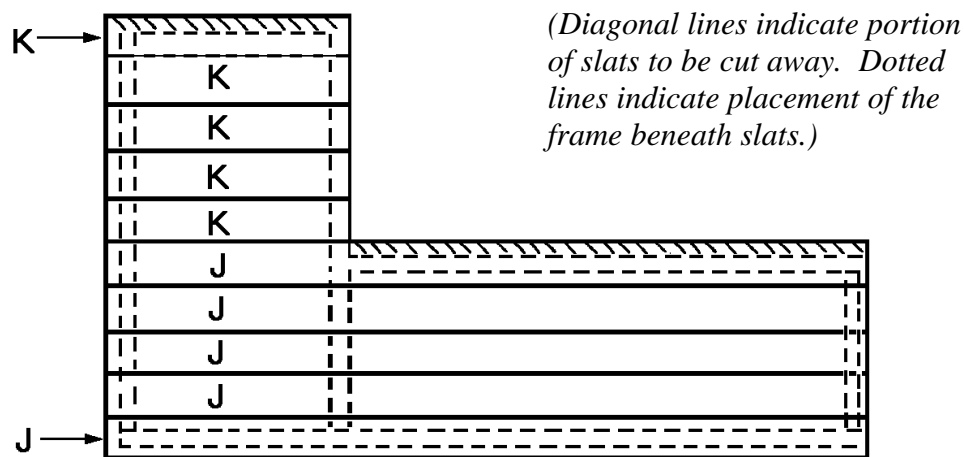

Figure 4
1. Cut five long table slats (J) from 1 x 4 treated lumber, each 56-1/2" long.
2. Refer to *Figure 4* to guide your placement of the table slats. Glue and nail one long table slat (J) into the outermost position across the front of the frame so that it overhangs the frame by 1 inch on the front and on each side. Drive two 3-penny finishing nails through the long table slat (J) into the short side (B), and two nails through the long table slat (J) into each of the long sides (A).
3. Glue and nail three more long table slats (J) to the frame, placing the nails as you did in Step 2. Position each new slat directly next to the previously attached one, and make sure that all of the ends are even.
4. Place (do not glue or nail) the remaining long table slat (J) in the innermost position, next to the four attached slats. Use a pencil to mark the bottom of the slat where it overhangs the frame (refer to *Figure 4*).
5. Cut off the portion of the long table slat (J) that overhangs the frame. The slats need to be flush with the frame so that the surround will stand right up next to your grill.
6. Replace the long table slat (J), and glue and nail it to the frame in the same manner that you used for the four previous slats.
7. Cut five short table slats (K) from 1 x 4 treated lumber, each 18 inches long.
8. Attach four of the short table slats (K) to the frame over the two long sides (A). The short table slats (K) should be flush with the inner long side (A), and overhang the outer long side (A) by 1 inch as shown in *Figure 4*. Use glue and drive two 3-penny finishing nails through each short table slat (K) into each of the long sides (A).
9. Place (do not glue or nail) the last short table slat (K) behind the four previously attached slats. Use a pencil to mark the bottom of the short table slat (K) where it overhangs the frame (refer to *Figure 4*).
10. Because I wanted to be able to put my surround (and grill) up against a wall, I cut off the entire portion of the short table slat (K) that overhangs the frame. If you wish, you can cut the short table slat (K) so that it overextends 1 inch to match the overhang on the front and sides.
11. Replace the short table slat (K), and attach it to the frame with glue and finishing nails just as you did for the four previous slats.